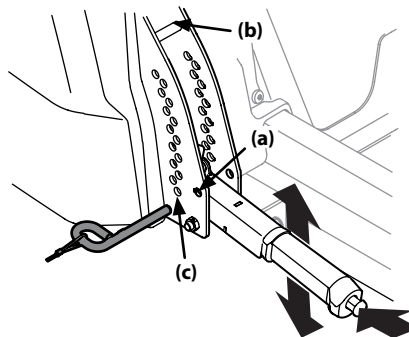

Figure 4-16
- Using the deck lift handle, raise the deck to the DECK REMOVAL/INSTALLATION POSITION (a). See Figure 4-16.
- Lower the deck into the DECK REMOVAL/INSTALLATION POSITION (a) using the deck lift handle. See Figure 4-16.
- Place the deck lift handle in the highest mowing position (b). See Figure 4-16.